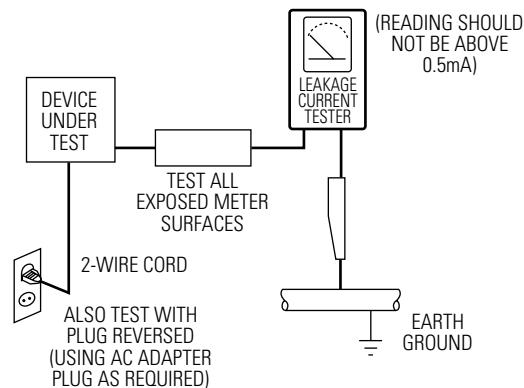

Fig. 1-1 AC Leakage Test
(2) Be sure that there are no cabinet openings through which adults or children might be able to insert their fingers and contact a hazardous voltage. Such openings include, but are not limited to, excessively wide cabinet ventilation slots, and an improperly fitted and/or incorrectly secured cabinet back cover.
(3) Leakage Current Hot Check-With the instrument completely reassembled, plug the AC line cord directly into a 120V AC outlet. (Do not use a isolation transformer during this test.) Use a leakage current tester or a metering system that complies with American National Standards Institute (ANSI) C101.1 Leakage Current for Appliances and Underwriters Laboratories (UL) 1270 (40.7). With the instrument's AC switch first in the ON position and then in the OFF position, measure from a known earth ground (metal water pipe, conduit, etc.) to all exposed metal parts of the instrument (antennas, handle brackets, metal cabinets, screwheads, metallic overlays, control shafts, etc.), especially any exposed metal parts that offer an electrical return path to the chassis. Any current measured must not exceed 0.5mA. Reverse the instrument power cord plug in the outlet and repeat the test. See Fig. 1-1.